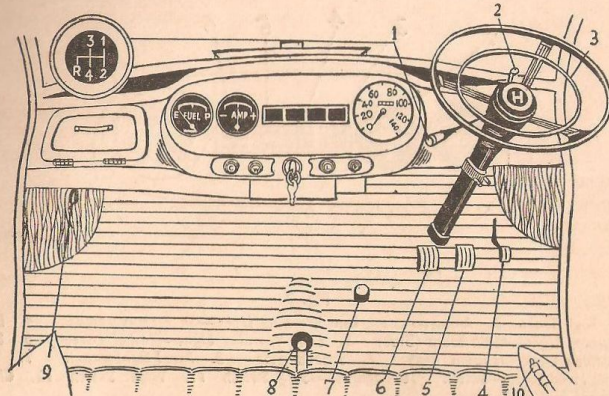
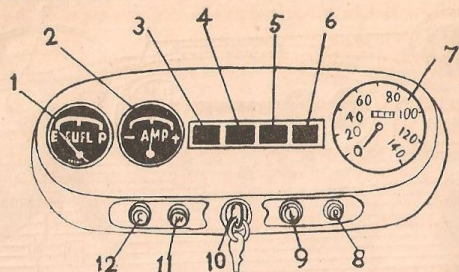

Fig. 2
Fig. 3
The combined ignition-start switch is located in the centre of the control panel (See Fig. 3 item 10) and is operated by a removal key which also locks the driver's door and luggage compartment lid. The first movement of the switch switches on ignition circuit (indicated by the red warning light—see fig. 3 item 6). Further rotation of the switch against the pressure of a spring operates the starter. On releas-
On the right hand side of the control panel, next to the ignition-start switch is located the lighting switch (See Fig. 3 item 9). It is two position pull-push switch. Pulling out the switch to its first position switches on the side and tail lamps; pulling the switch further out lights on the head lamps. The blue beam warning light glows when the beams are in raised position.
The panel light switch is located at the extreme right of the control panel (See Fig. 3 item 8) and is pull-push type. The light is switched on when the knob is pulled provided the side lamps are switched on.
The two windshield blades are operated by a pull-push switch marked 'W' and is located on the left hand side next to the ignition-start switch (See Fig. 3 item 11). Pull the switch knob out to bring both the blades in operation. Parking of the blades is automatic when the switch is pushed back to the 'off' position.
To enrich the mixture and assist starting when the engine is cold, pull the control knob marked 'C' located at the extreme left on the control panel (See Fig. 3 item 12).
This is the amber lamp (See Fig. 3 item 3) which glows when the ignition switch is switched on and engine is not running. It should go out when the engine is started and should remain out all the time the engine is running. Should this light continue to remain 'on' with engine running or does not light when the ignition is in the 'on' position before starting the engine, your dealer should be contacted immediately for necessary correction.
The light, located second from left (See Fig. 3 item 4), glows 'blue' when the head lamps are on and the beams are in the raised position in order to remind the driver to dip for approaching traffic.
This is the small 'green' lamp located next to the blue main beam warning lamp (See Fig. 3 item 5). Wherever the flashing direction indicator lamps are operated by moving the small centrally located lever on the steering hub (See Fig. 2 item 2), the flasher warning lamps also lights on and serves as a warning, should any failure occur in the system.
This is the small 'red' lamp located at the extreme right hand side and next to the green flasher warning light (See Fig. 3 item 6). Whenever the ignition is switched on, the lamp lights up. It should go out as soon as the engine speed is increased. Should it fail to do so ascertain that dynamo belt is not broken or loose. If the belt is undamaged and is not loose, the dynamo is not charging. Electric circuit should be examined for location and rectification of the fault.
The speedometer is situated on the right-hand side of the instrument panel (See Fig. 3 item 7) and gives indication of the total distance travelled.